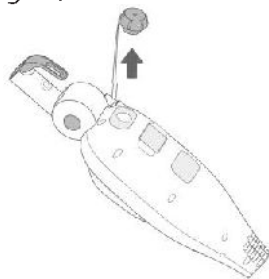

Fig. 7
5. Pull out the water reservoir stopper (fig. 7).